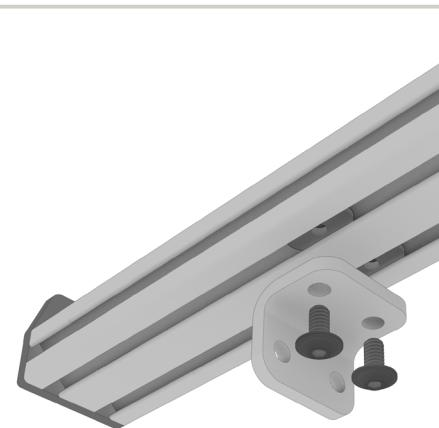

FIG 8
3.3 Attach Crossbar Bracket to Crossbar: Take a Crossbar Bracket and position it against the surface of the Crossbar. Make sure it is in the orientation as shown in FIG 8 that has the mounting flanges facing inward. Loosely attach to T-Nuts using (2ea) 1/4-20 x 0.5 Flanged Button Head Hex Drive Screws (FIG 8).